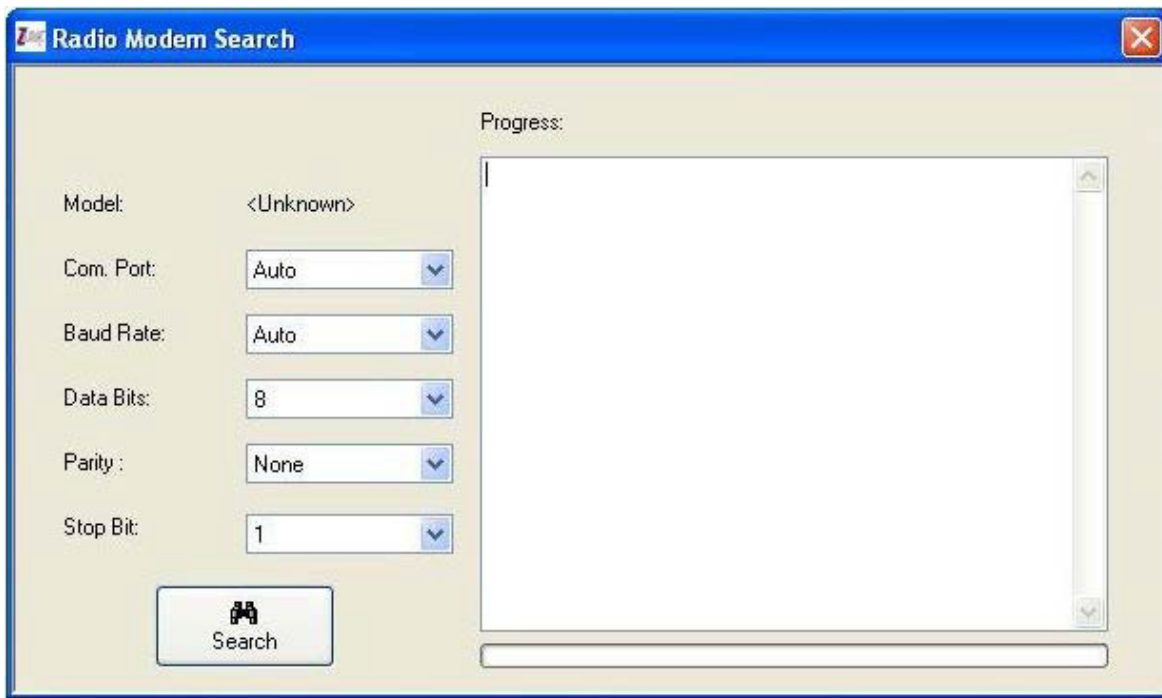

Figure 7. Radio Modem Search Window
10. Click on the **Auto Modem Search** button. The Radio Modem Search window will open (Figure 7).
11. Click on the **Auto Modem Search** button. The Radio Modem Search window will open (refer back to Figure 7).